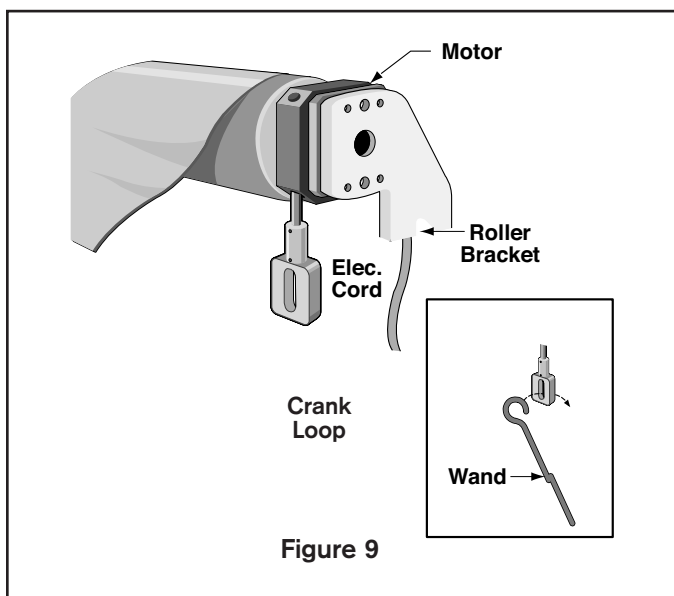

Figure 9
**Note:** During an electrical outage, you can open or close your awning using the crank wand supplied. Just insert the wand into the crank loop and turn – see figure 9.